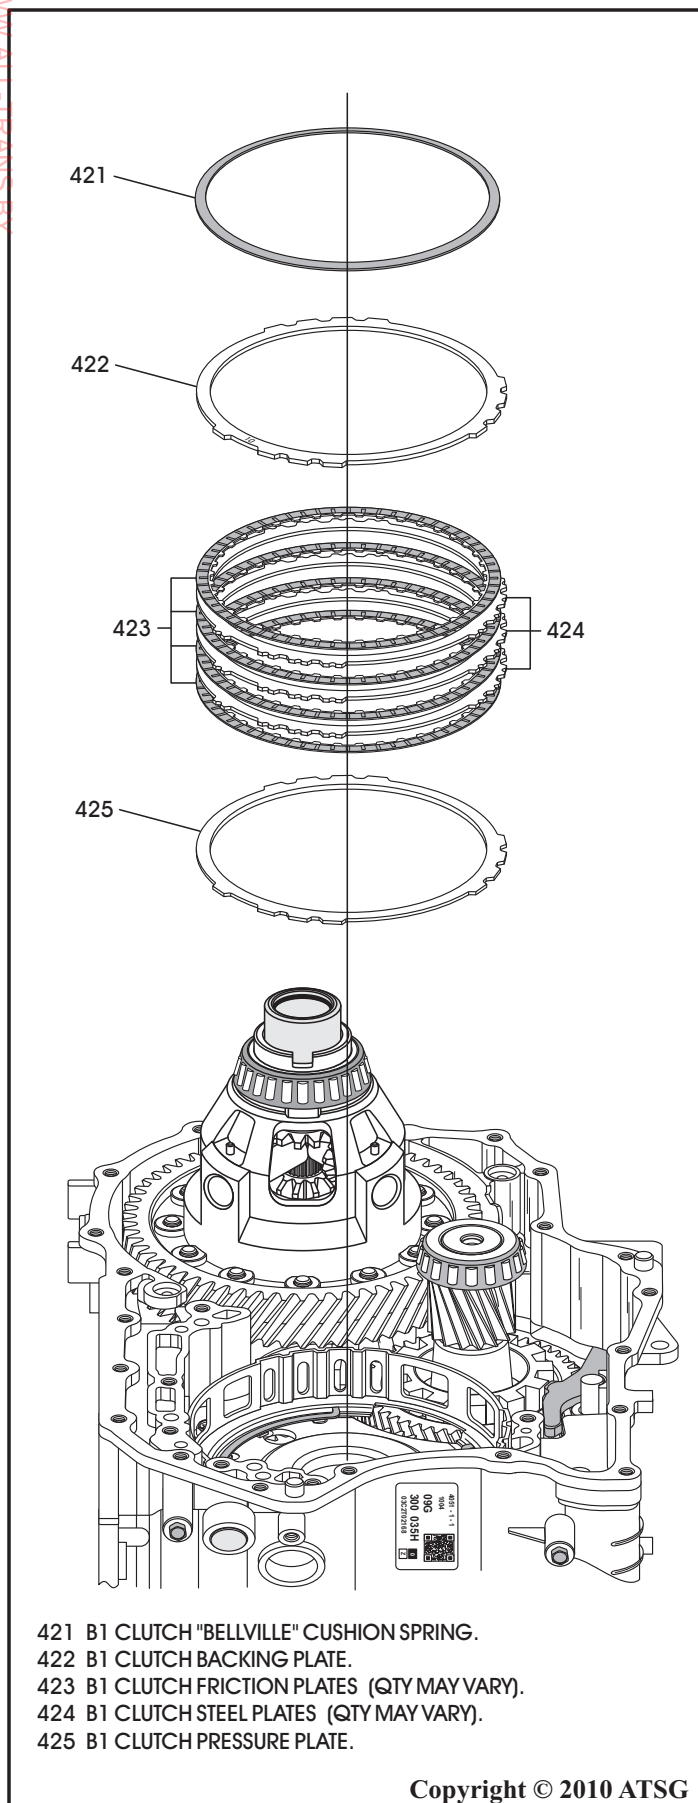

Figure 75
50. Remove the B1 clutch pack from the B1 clutch housing, as shown in Figure 75.